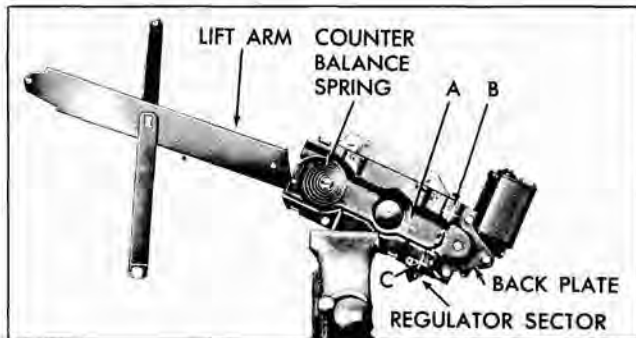

Fig. 3-29 Front Door Regulator - Electric
1. Remove front door electric window regulator assembly from door as previously described and clamp it in a vise (Fig. 3-29).
4. Remove motor attaching bolts and remove motor assembly from regulator (Fig. 3-29).